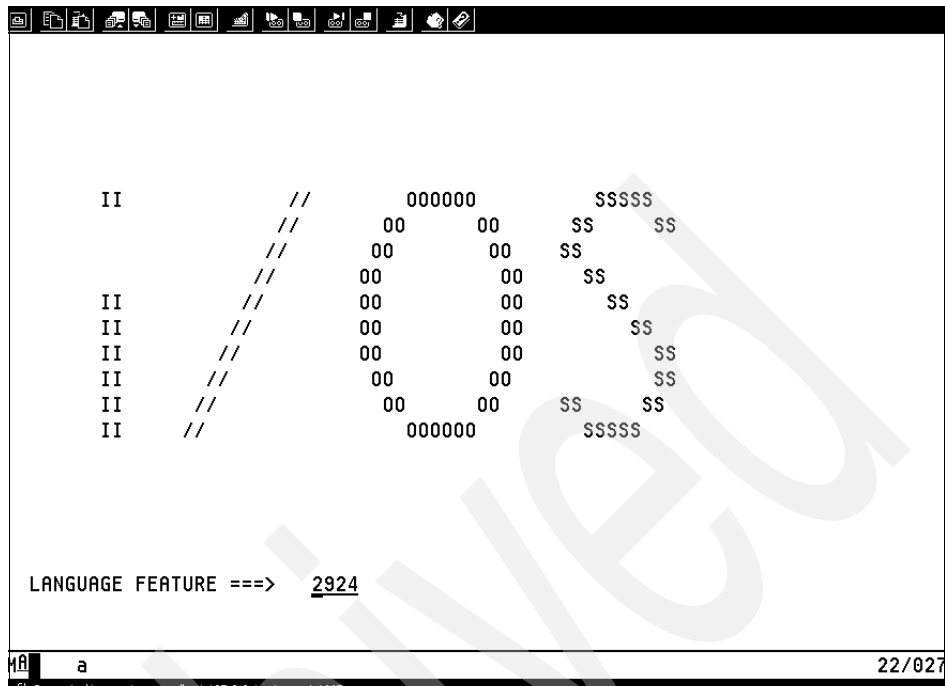

Figure 7-48 LIC initial installation panel
4. After connecting the IBM System i for Windows LAN console, the panel shown in Figure 7-48 on page 286 appears. The default language feature for English is 2924 but can be changed on the next panel.